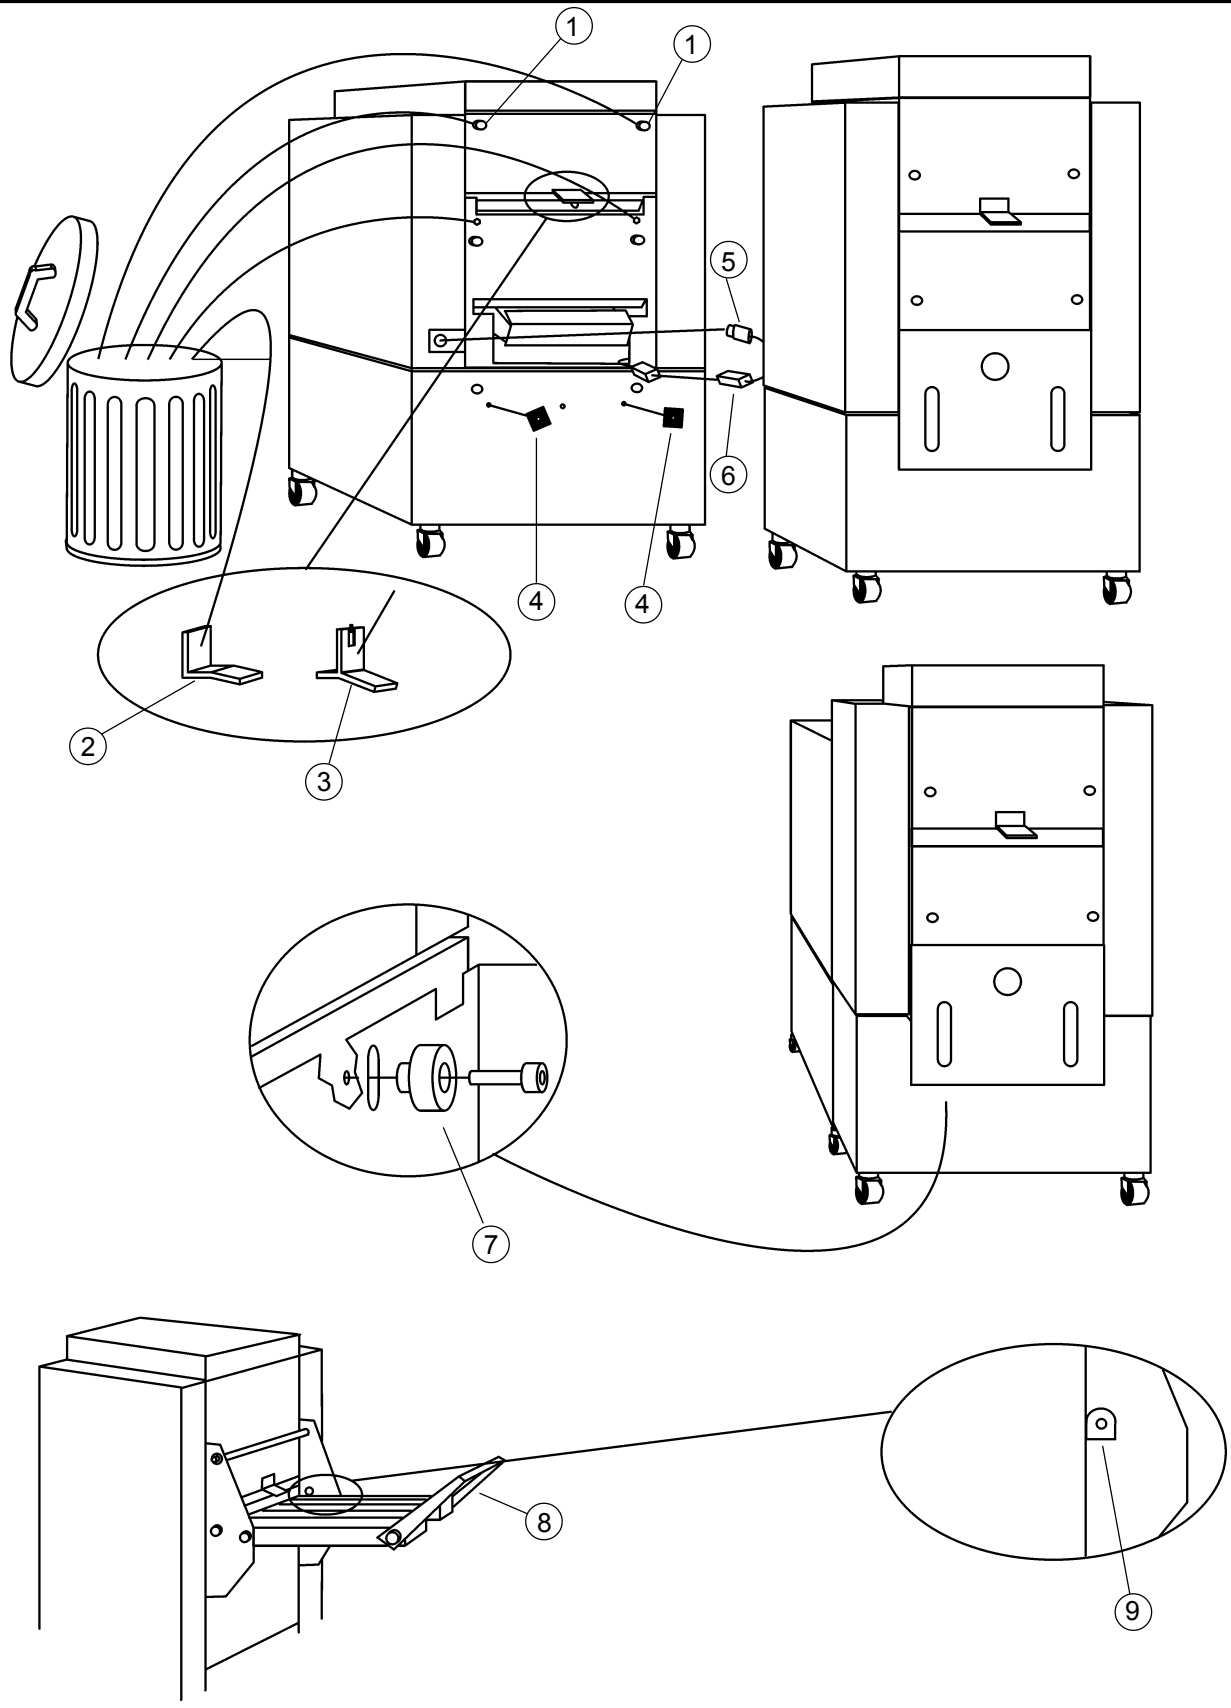

Figure 17
2. Remove the two black hangers for the Beltstacker (1) from the Bookletmaker, figure 17.
4. Install the two black studs (4) on the Bookletmaker base, figure 17.
6. Take the two screws with the 20 mm washers , install them in the holes where you removed the two black positioning pins (1), figure 17.
7. Take the allen screw and the plastic distance and attach it to the Trimmer and the Bookletmaker (7), figure 17.
8. Take the stacker and install it on the Trimmer (8), turn the two stacker height brackets (9) a half turn so that the stacker is in the up position, figure 17.